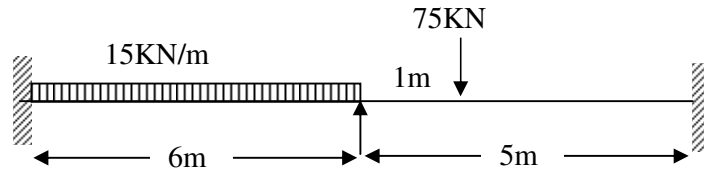

Figure 4
4. Evaluate the bending moment and shear force diagrams of beam in Figure 4 by slope deflection method.